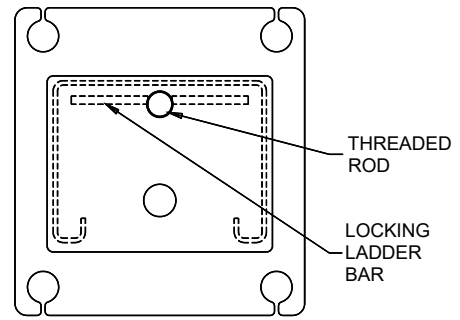

Fig 8 – Locking Ladder Orientation
- 16) Stand up a column assembly near each corner of the lift (column with power unit bracket goes at the 4-sheave-stack corner, power rear) and check the locking ladder bar orientation per **Fig 8**. Note that the center of the threaded rod is offset (away from the back of the column) from the center of the ladder. Thread the locking ladder jam nut (located under the column top plate) down approximately 6” to allow the ladder to be lifted freely.